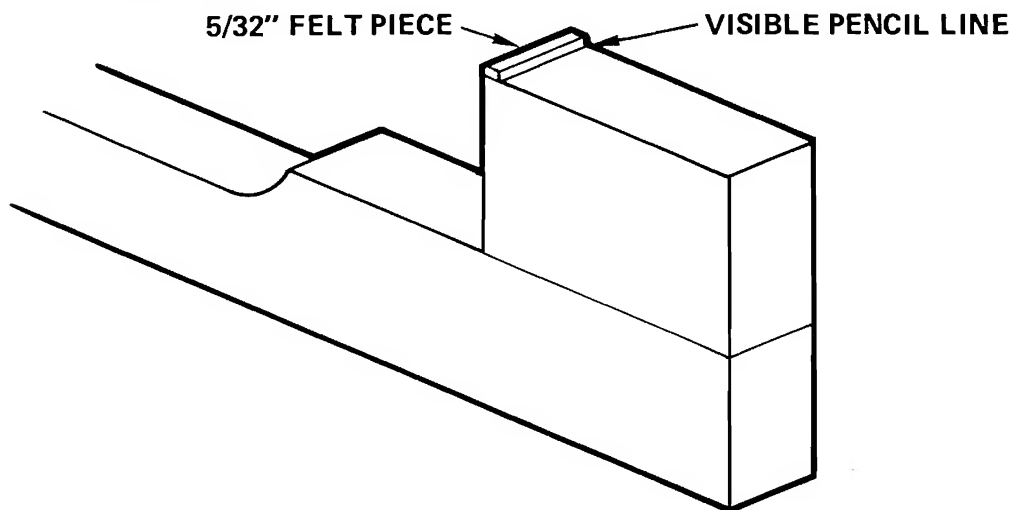

Figure 6-5. Key Pedestal — $5/32''$ Felt Piece Mounted
11. One by one, remove $5/32''$ (3.969mm) felt pieces from the paper backing and place them on the Key Pedestal in front of (closest to the Key Cap) the scribed pencil line so that the pencil line is visible after the $5/32''$ (3.969mm) Felt Piece is securely mounted (Figure 6-5).